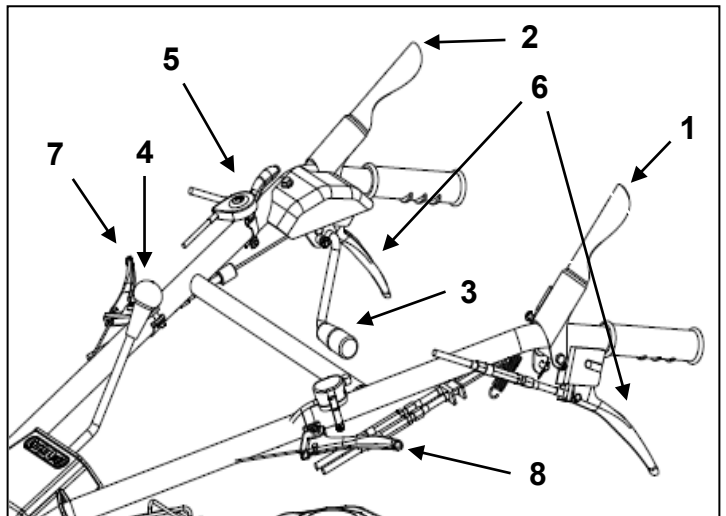

Figure 1
Push the lever (1, Figure 1) down to the handlebar to make the machine move. Release the lever, then the machine stops.
Blade clutch lever makes the engine drive the blade to mow. Push the lever (2, Figure 1) then pull up the lever (3, Figure 1) to make the blade spin. Release the lever, then the rotor stops.
This lever (4, Figure 1) allows to select 3 forward speeds (1, 2, 3), 1 reverse speed (R) or 1 neutral position(N).
Push the throttle lever (5, Figure 1) to left to increase engine speed, push the throttle lever to right to decrease engine speed to idle rpm. Always operate mower at full engine speed.
The side clutch levers (6, Figure 1) are used to change the direction of the machine. Grip right lever to turn right and left lever to turn left. To move the machine when engine is cut off, grip the both levers.
Grip the lever (7, Figure1) to move handlebar right and left. And grip the lever (8, Figure 1) to move handlebar up/down.